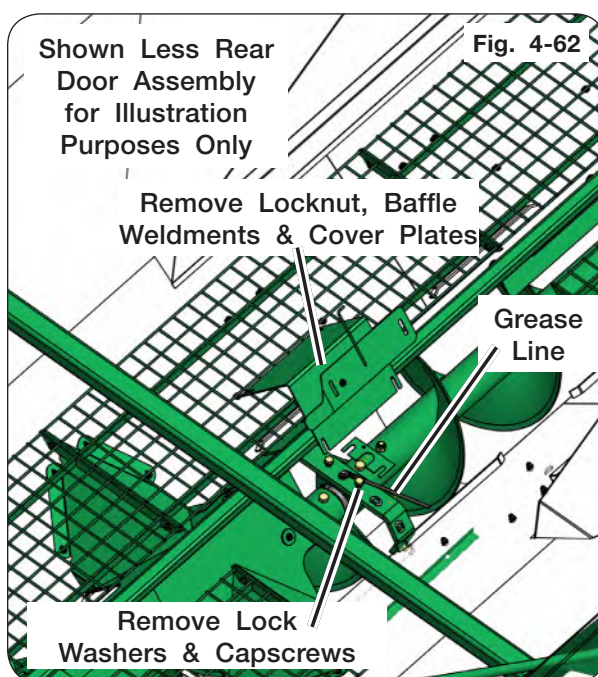

Fig. 4-62
24. Extend a string tightly from front to rear to check horizontal auger alignment. Measure the string to the auger tube either in front or behind the hanger bearing. If this dimension is 1/8" greater than the measurement taken in the front and rear, shims (8GA - 286419B or 12GA - 286424B) are required on top of the center hanger bearing. Ideally the center measurement should be equal to or 1/8" lower than the measurements on the ends of the augers. (Fig. 4-62)
3. Remove locknuts, baffle weldments and cover plates from the middle tent. (Fig. 4-62)
4. Remove grease line. (Fig. 4-62)